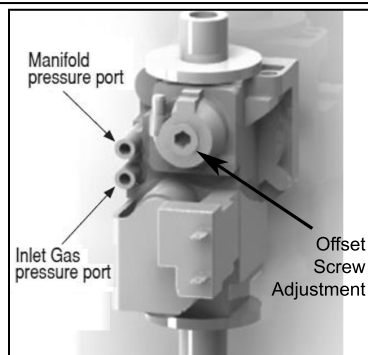

Figure 37 - Gas Valve Detail
**NOTE:** Refer Figure 37 when checking gas pressure. Loosen the bolts before checking the gas inlet pressure.
If the readings obtained are lower or higher than the combustion readings in Table 24, use a 4mm Allen key to adjust the offset screw in a clockwise (positive) or counterclockwise (negative) direction (approximately 1/4 turn). See Figure 37. Check your combustion values. Repeat this procedure until the values obtained on the